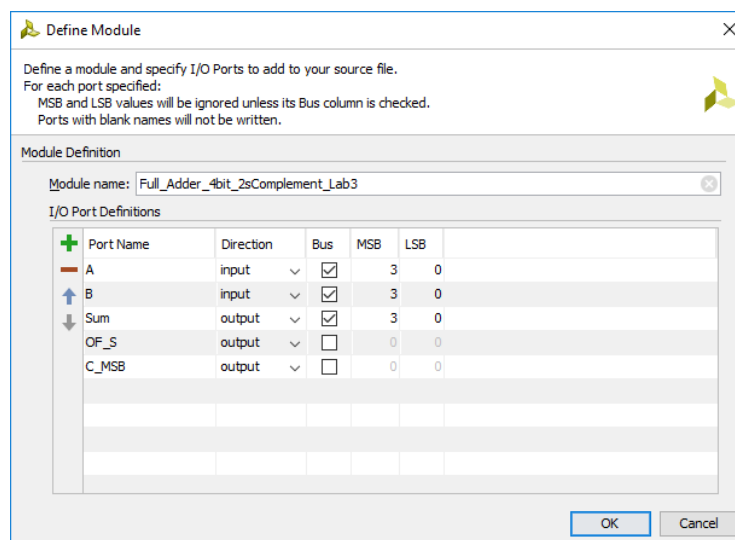

Figure 8
a) Start a new project. Enter the inputs as Bus, each with 4 bits. The Sum output as a bus of 4-bits. The signed overflow (OF) and C_MSB as one-bit output. [see Figure 8]